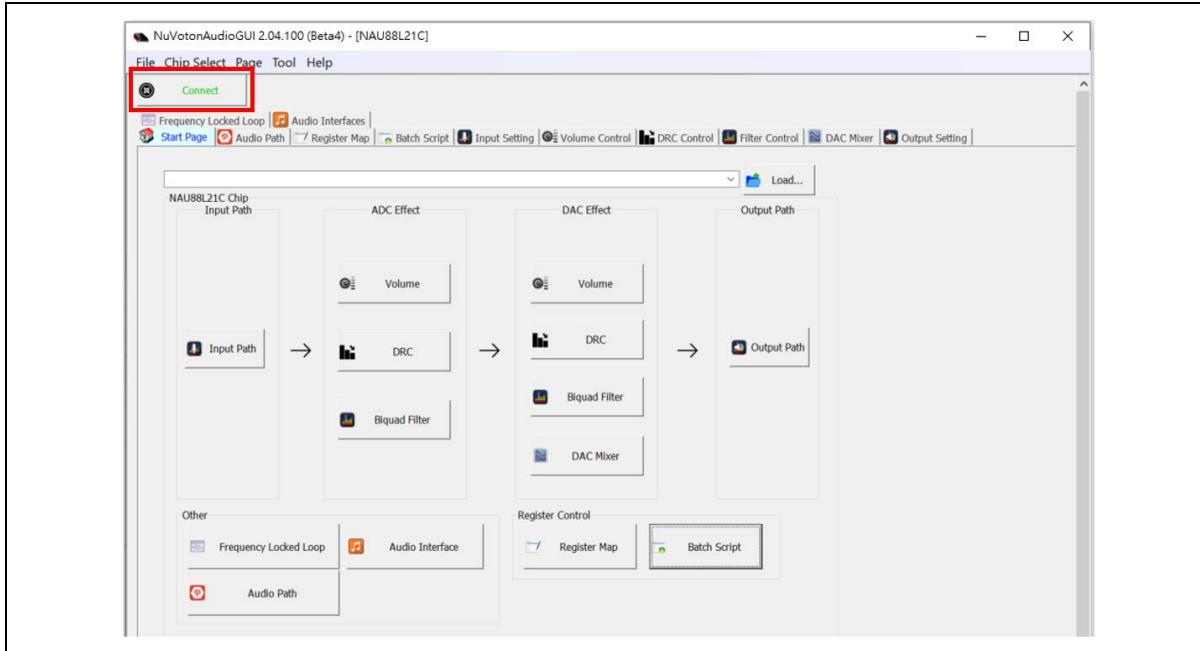

Figure 3-6 NuvotonAudioGUI Operating Step (3)
3. NuvotonAudioGUI will automatically read connection status. If the hardware and software are properly configured, a green [Connect] will appear on the upper left corner of the NuvotonAudioGUI window, as shown in Figure 3-6. Then users can issue I²C commands through NuvotonAudioGUI to control NL-NAU88L21C.